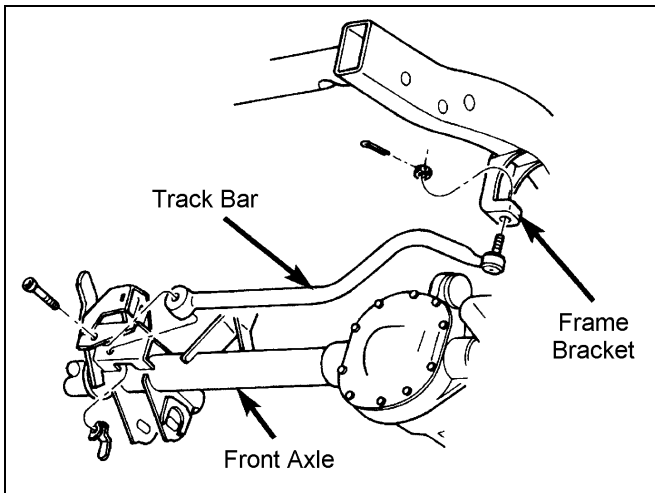

Figure 2
- 3) ☒ Remove the cotter pin and nut from the ball stud end of the track bar at the frame rail bracket. Separate the ball stud from the bracket with the recommended puller tool. See figure 2.